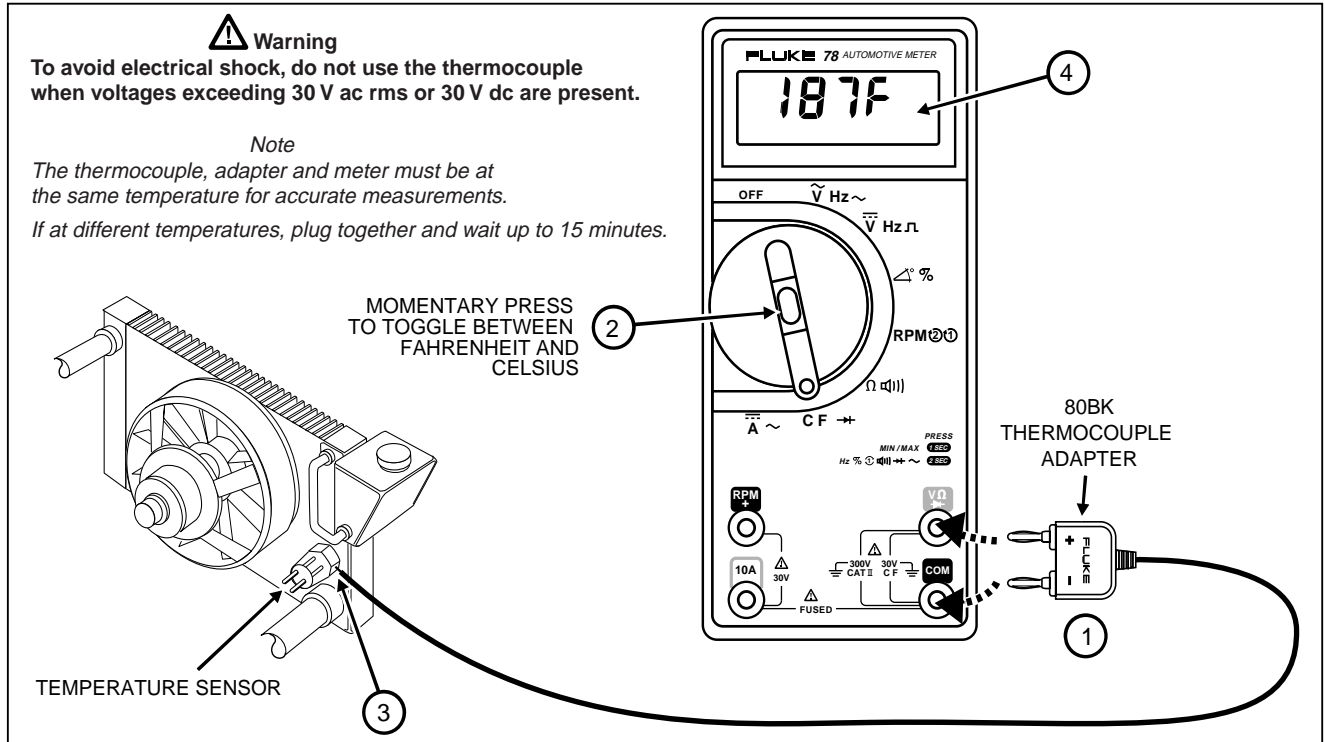

Figure 15. Measuring the Temperature of Coolant Temperature Sensor
1. Plug the adapter with thermocouple into the jacks as shown in Figure 15.